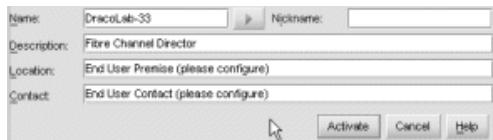

Figure 18 Configure Identification dialog box
1. At the Hardware View page for the selected switch, select **Configure > Identification**. The Configure Identification dialog box is displayed (Figure 18).